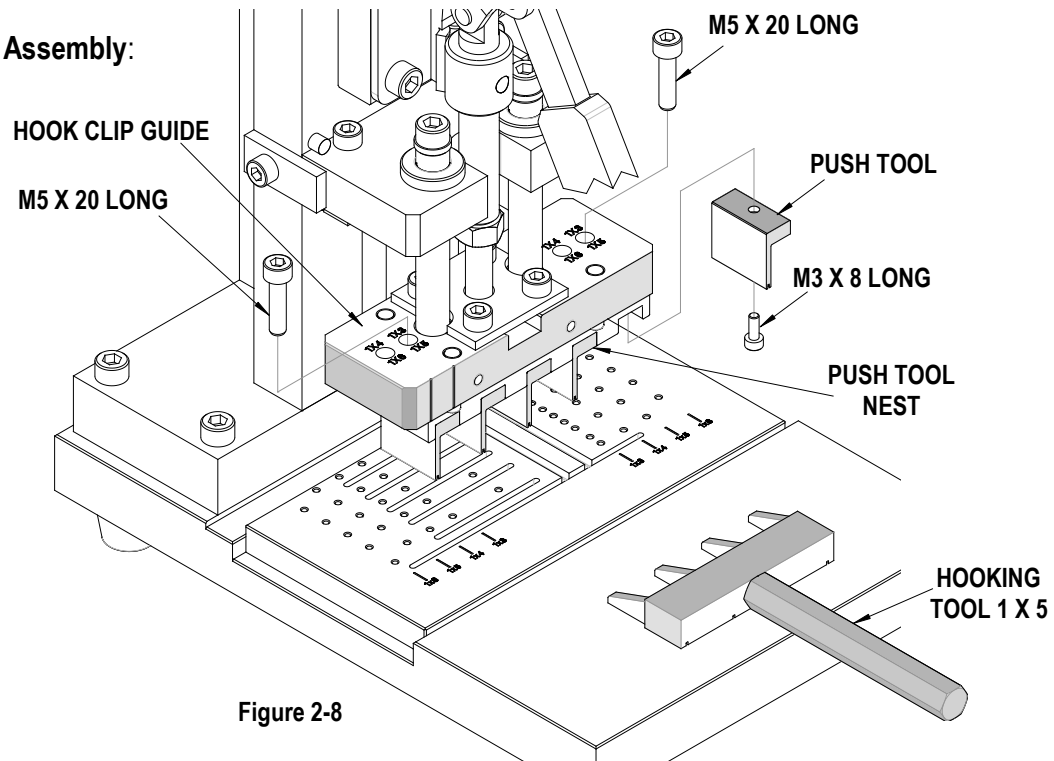

Figure 2-8
1. With the Toggle Clamp in the down position remove the Hook Clip Guide by removing the two (2) M5 screws.
2. Remove one (1) Heat Sink Push Tools and the M3 by 8 screw from right side of the Push Tool Nest. See Figure 2-8.